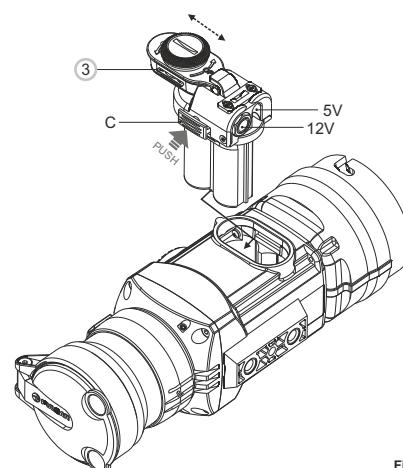

Fig. 3
- Install the external power adapter into the monocular's battery compartment (**see Fig. 3**) and press it firmly from above to make sure that the adapter's latches (C) have snapped on both sides.
- Secure the cover (6) on the adapter (**see Fig. 3**).
- Power the unit on with a short press of the “ON/OFF” (9) button.